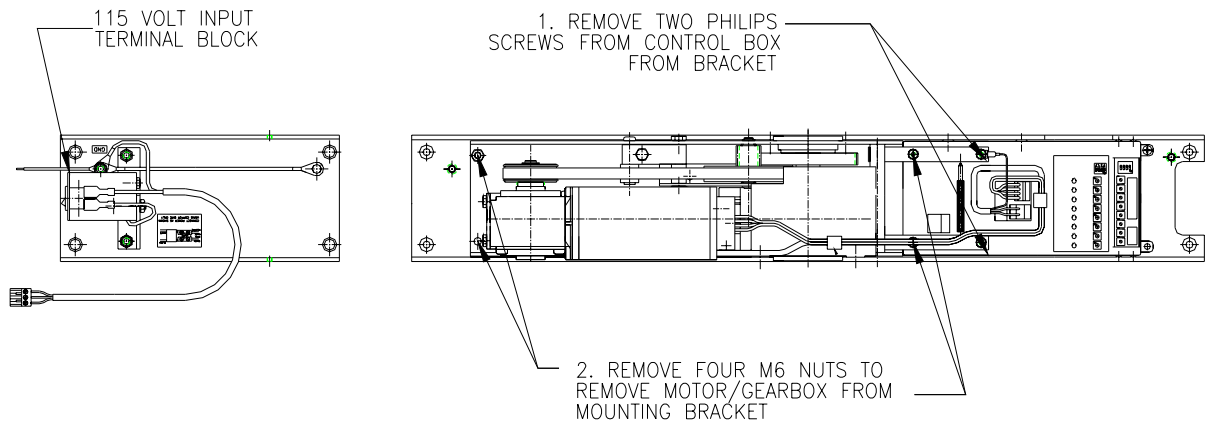

FIGURE 16: MOTOR/GEARBOX & CONTROL BOX REMOVAL
1. Remove the control box and motor/gearbox from the mounting bracket (**Figure 16**).
7. Connect power to the terminal block (**Figure 16**), matching black to black (live), white to white (neutral), and ground to the grounding stud.